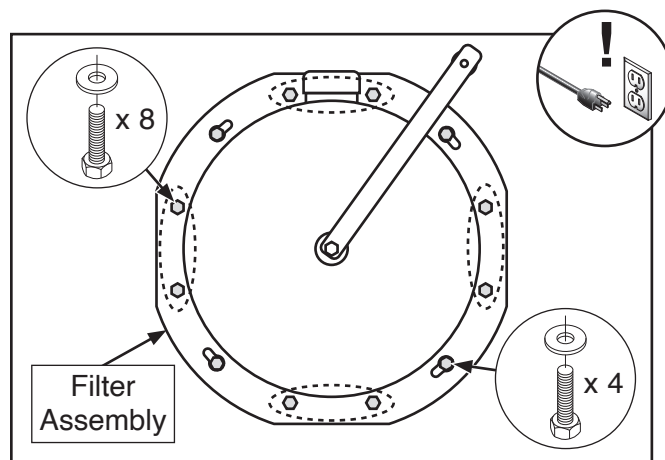

Figure 55. Location of filter assembly fasteners viewed from bottom.
4. With help from an assistant, brace bottom of filter assembly, then remove (8 of 12) hex bolts and flat washers attaching filter assembly to dust collector frame (see **Figure 55**). Retain fasteners for later use.
5. Loosen (4 of 12) remaining hex bolts (see **Figure 55**), then rotate filter assembly counter clockwise and allow filter assembly to detach from dust collector frame.